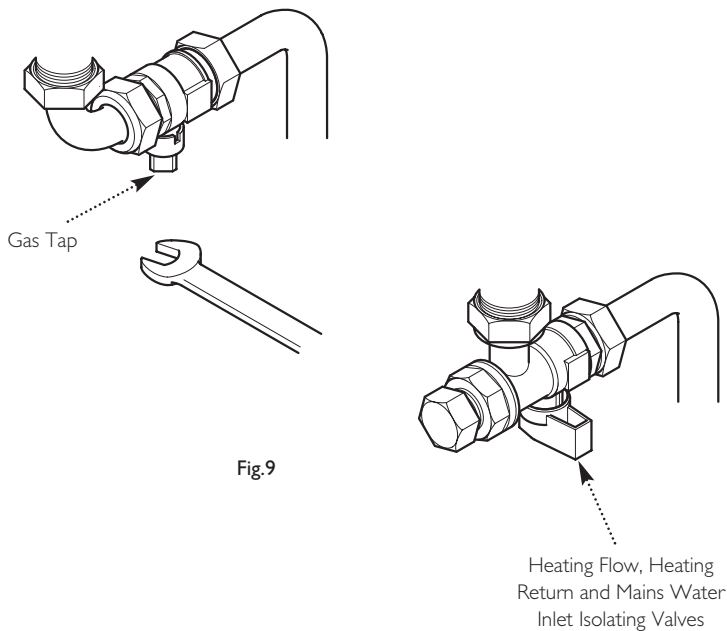

Fig.9
Turn off the gas supply at the meter and call your gas supplier immediately. It is possible to isolate the boiler and at the isolating valve (Fig. 9).
1. Using a suitable open ended spanner, turn the square nut on the gas tap through 90° ($\frac{1}{4}$ turn) to isolate the gas supply at the boiler (Fig. 9).
2. The water isolating valves are positioned under the boiler and can be closed by turning their taps to the right towards the wall (Fig. 9).